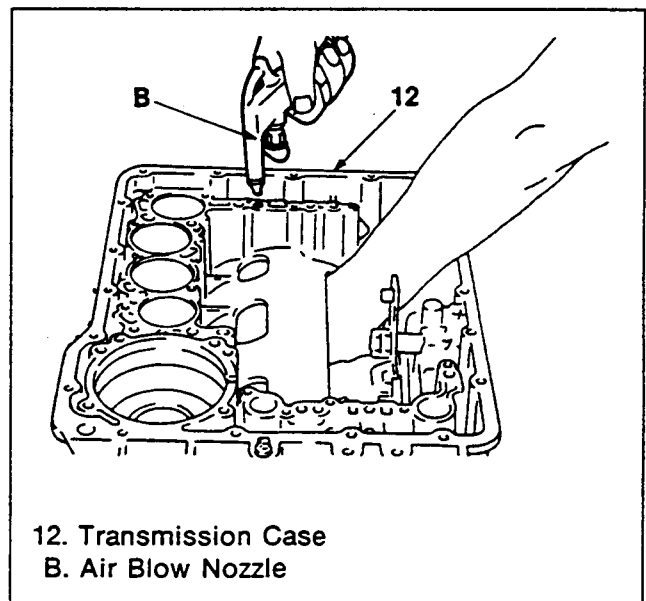

Figure 175. Low and Reverse Brake Operation Check
3. After assembly, blow 294 – 392 kPa (42 – 56 psi) air into the oil hole and check its operation (figure 175).